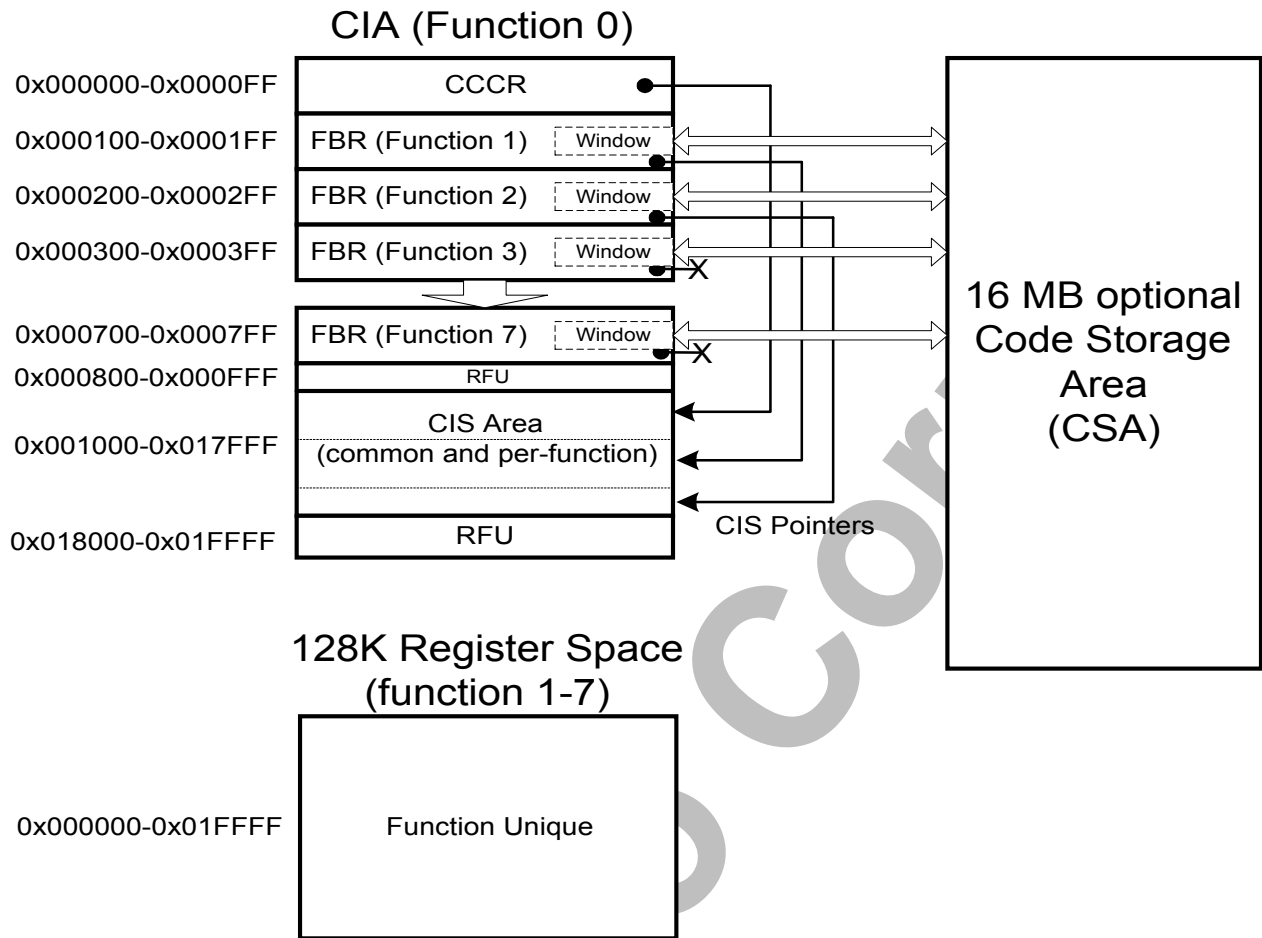

Figure 20 SDIO Internal Map
Each SDIO card may have from 1 to 7 functions plus one memory function built into it. A function is a self contained I/O device. I/O functions may be identical or completely different from each other. All I/O functions are organized as a collection of registers. There is a maximum of 131,072 (2^{17}) registers possible for each I/O function. These registers and their individual bits may be Read Only (RO), Write Only (WO) or Read/Write (R/W). These registers can be 8, 16 or 32 bits wide within the card. All addressing is based on byte access. These registers can be written and/or read one at a time, multiply to the same address or multiply to an incrementing address. The single R/W access is often used to initialize the I/O function or to read a single status or data value. The multiple reads to a fixed address are used to read or write data from a data FIFO register in the card. The read to incrementing addresses is used to read or write a collection of data to/from a RAM area inside of the card. Figure 20 shows the mapping of the CIA and optional CSA space for an SDIO card.
The SDIO card has a fixed internal register space and a function unique area. The fixed area contains information about the card and certain mandatory and optional registers in fixed locations. The fixed locations allow any host to obtain information about the card and perform simple operations such as enable in a common manner. The function unique area is a per-function area, which is defined either by the Application Specifications for Standard SDIO functions or by the vendor for non-standard functions. Figure 20 shows the internal map of an SDIO card with multiple functions.